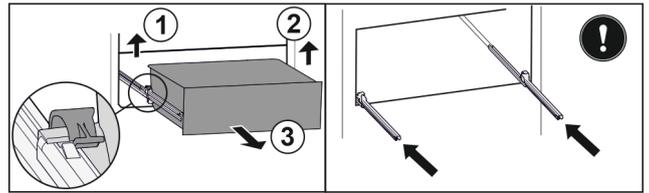

Fig. 117
- ▶ Lift left clamp and simultaneously pull drawer forwards on the left. Fig. 117 (1)
- ▶ Lift right clamp and simultaneously pull drawer forwards on the right. Fig. 117 (2)
- ▶ Remove drawer to the front. Fig. 117 (3)